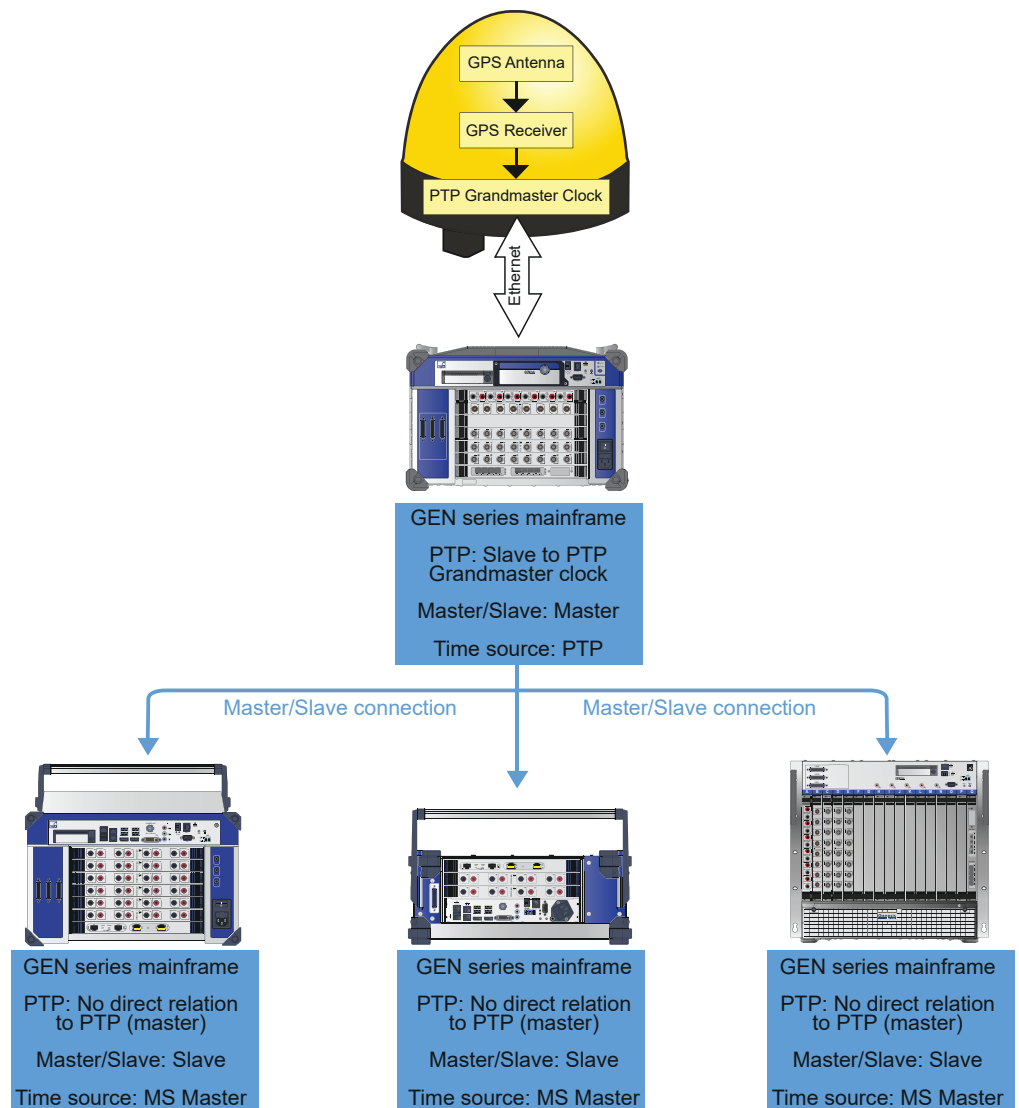

Figure 14.23: GPS Receiver with Master/Slave connected Slaves
- G002B: GPS Receiver with Master/Slave connected Slaves (see Figure 14.23)